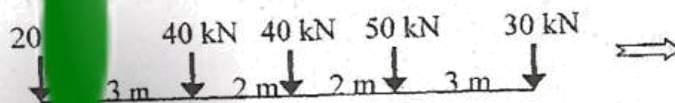

Fig.Q 12 (a)
12. (a) A train of loads as shown in Fig. Q.12 (a) crosses a simply supported beam of 24 m span from left to right. Using influence line determine the maximum bending moment at one-third span point and also the absolute maximum bending moment in the beam.